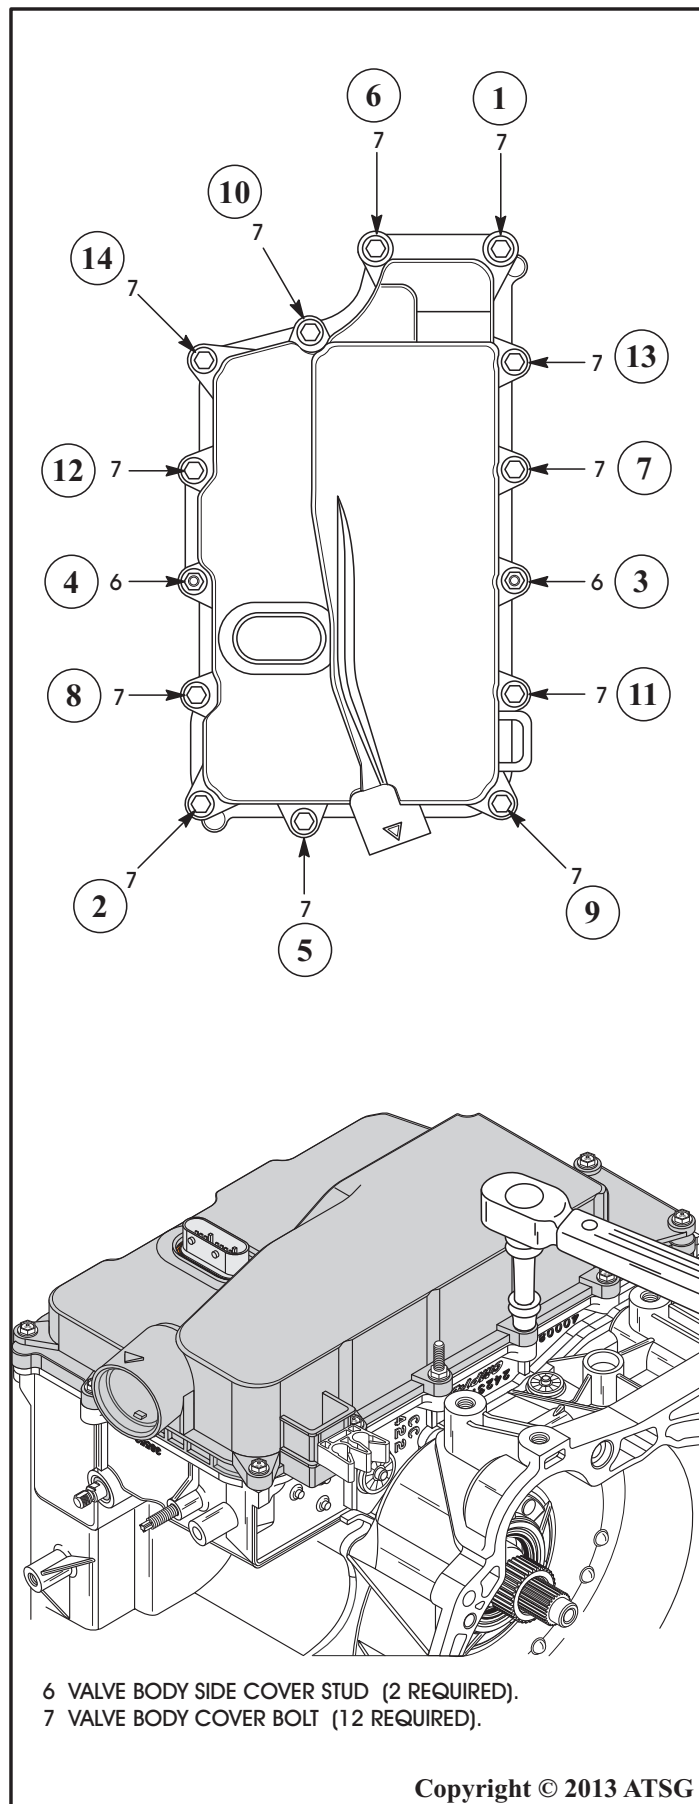

Figure 224
70. Torque the valve body side cover bolts and studs to 12 N•m (106 in. lb.), as shown in Figure 224, in the sequence shown.